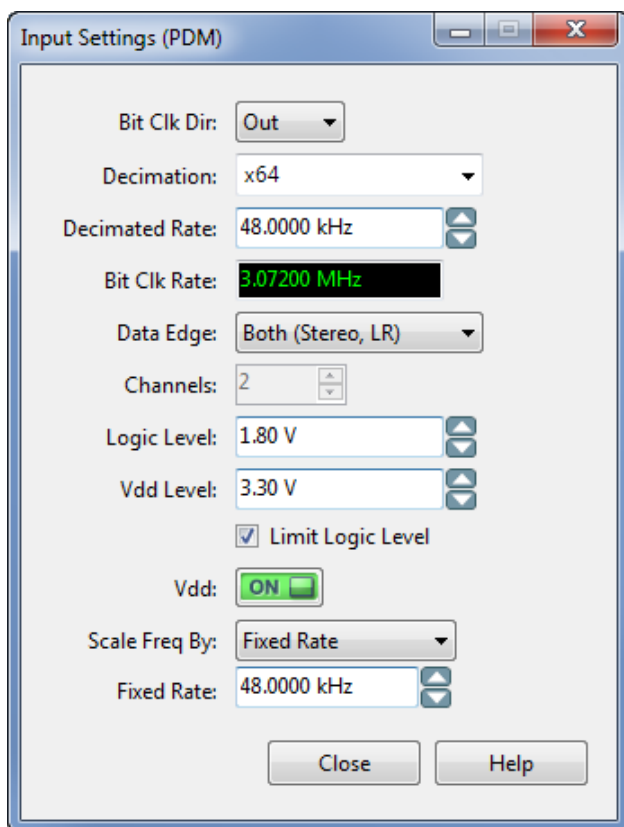
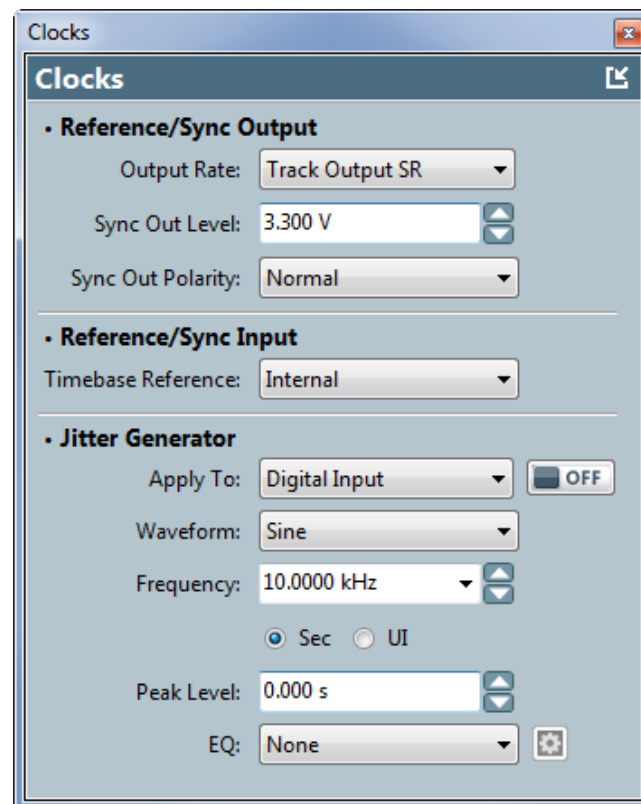

Figure 10. PDM Input Settings Panel configured for MEMS microphone tests.
Figure 11. APx Clocks panel setup to jitter the output bit clock on the PDM input connected to a MEMS microphone.
This can be easily setup with the APx analyzer **PDM Input Setting Panel** (Figure 10), **Clocks Panel** (Figure 11), and **Jitter Level Sweep** measurement (Figure 12).
1. On the **PDM Input Settings** Panel (Figure 10)
2. On the **Clocks** Panel (Figure 11), **Jitter Generator**: